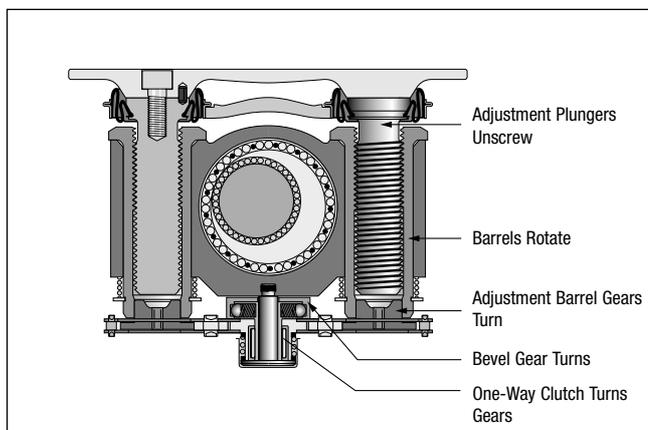

FIG. 9
- Before the pads contact the rotor, the adjuster sleeves are turned by the gear train. Rotation of the sleeves has the effect of unscrewing the adjuster piston within the sleeves thus increasing the effective length of the pistons and decreasing the travel required (Fig. 9).